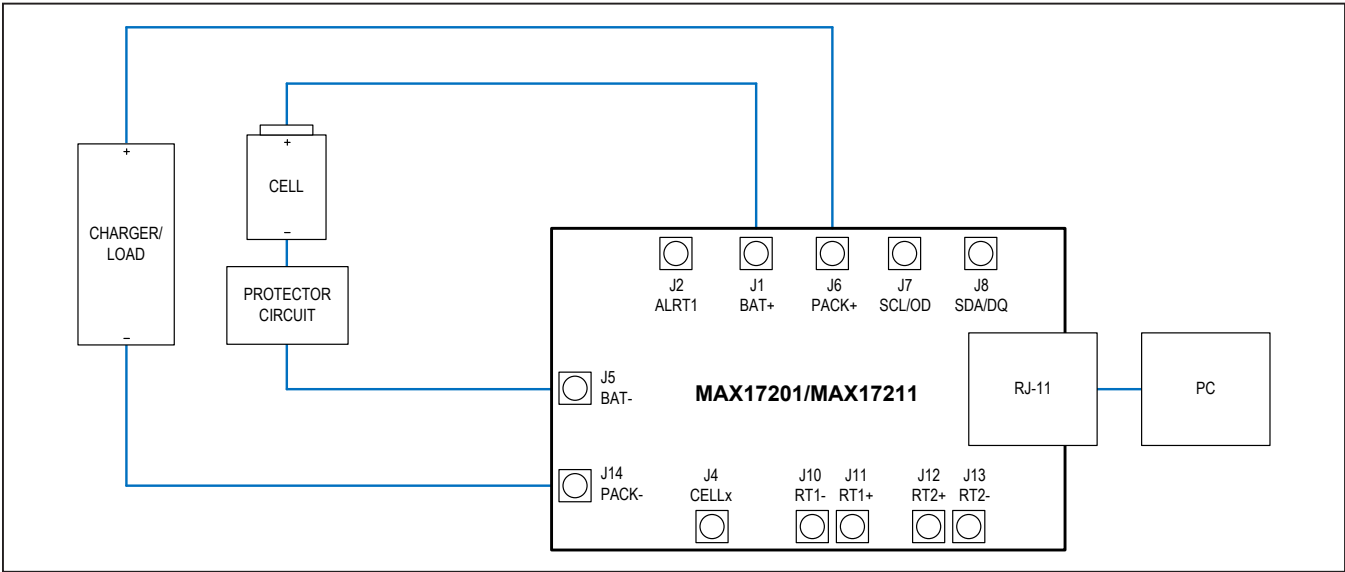

Figure 1. MAX17201/MAX17211 Board Connections
- 5) Make connections to the EV kit board based on cell pack configuration as shown in Figure 1. The cell connects between the BAT- and BAT+ pads and the charger/load connect between the PACK- and PACK+ pads. The load or charger circuit can be connected at this time as well.